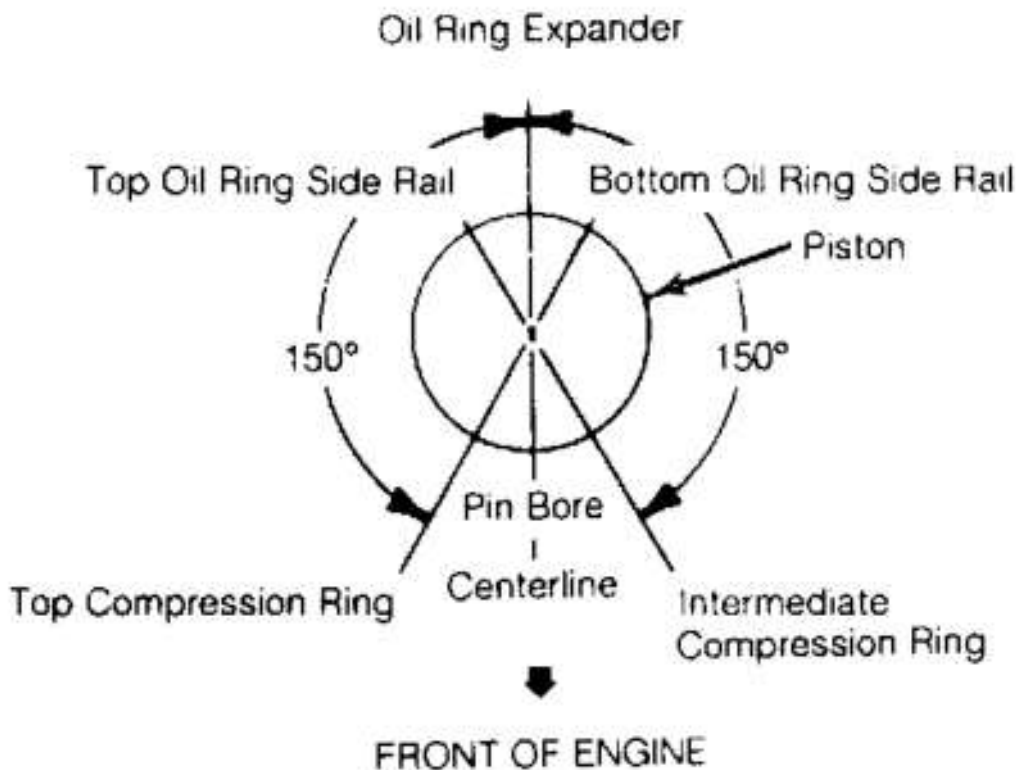

Fig. 9: Positioning Piston Ring End Gaps
- Check side clearance of rings after installing on piston. Ensure clearance is within specification around entire circumference. Replace piston and/or rings if clearance is not as specified. See **PISTONS PINS & RINGS** table under ENGINE SPECIFICATIONS. Ensure rings are properly spaced on piston before installing pistons into cylinder. See **Fig. 9**.